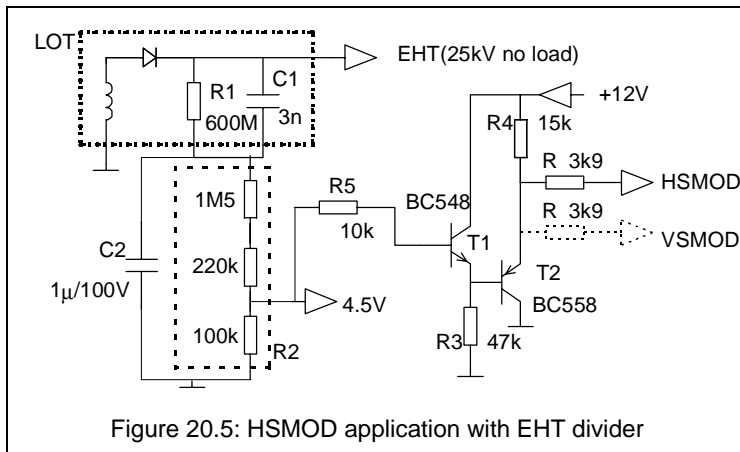

Figure 20.5: HSMOD application with EHT divider
- 1- A parallel capacitor and bleeder are present in the EHT transformer. With a divider and buffer, EHT information can be transferred to HSMOD. This is the best solution, because the signal does not lag in phase. The application at HSMOD can be implemented as shown in Figure 20.5. This divider creates a T1 base voltage of 4.8 V, within the range of the voltage at HSMOD. A decrease of EHT voltage will result in a voltage over R, sinking current from HSMOD. The time constants of the divider ( $C1 \cdot R1$  and  $C2 \cdot R2$ ) must be equal. The values for R2 and C2 should be recalculated if the LOT contains other component values for R1 or C1. C2 should have a low leakage current ( $< 0.1 \mu A$ ). For a full HSMOD control range with a EHT voltage drop of 10% (2.5kV), the value for R will be 3k9.
In both applications, tracks should be as short as possible, especially the track from resistor to HSMOD. This resistor is 'R' in Figure 20.5 and R2 in Figure 20.6. If these tracks are longer than approximately 2 cm, input filtering will be necessary in order to eliminate possible EMI problems. This is done by a current input filter, shown in Figure 20.7, where R1 and C1 should be as close to the input pin as possible.